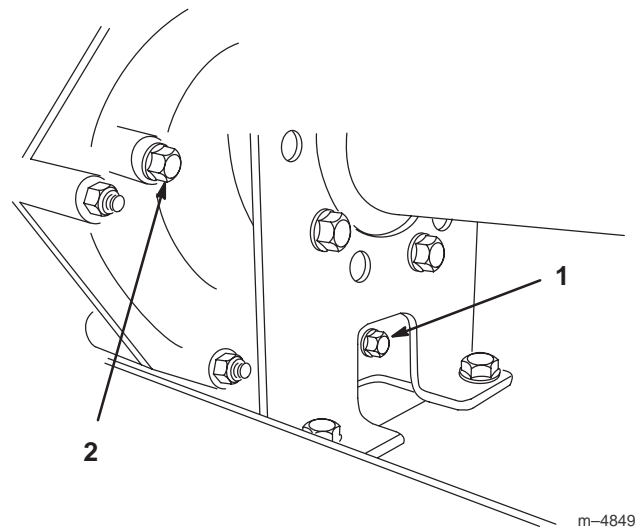
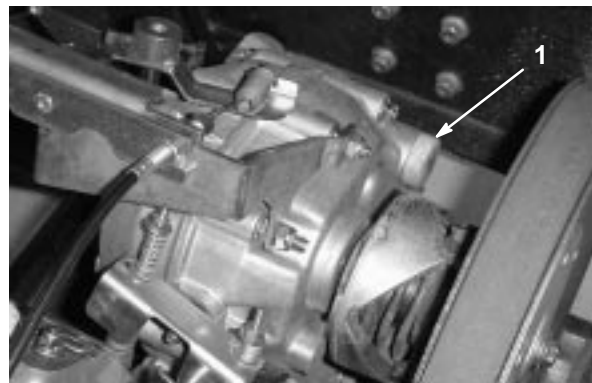

Figure 41
Figure 42
- 2. Remove the drain plug from the right side of the reservoir (Fig. 41) and let the fluid flow into a drain pan. Install and tighten the plug when the fluid stops draining.
- 3. Fill the reservoir (Fig. 42) with approximately 1-1/2 qt. (1.4 liters) of SAE 10W30 motor oil or until the oil level is at the bottom of the level indicator hole (Fig. 41).